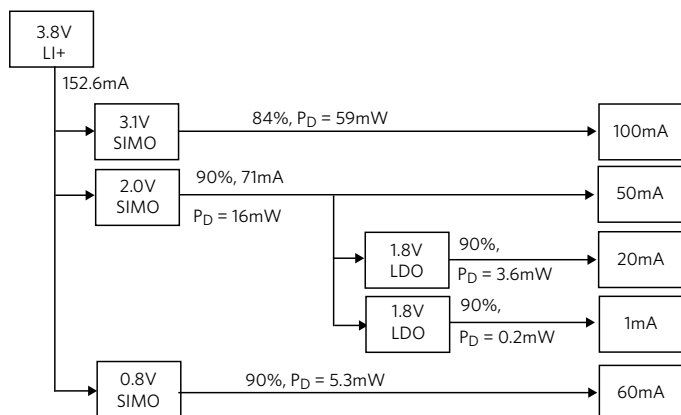

Figure 3. Power Tree of a High-Efficiency SIMO
Figure 3 is a system power tree, reporting each regulator's output voltage, load current, efficiency, and power dissipation (PD). Three out of five loads are supplied directly by the high-efficiency SIMO switching regulator. The LDOs for the fourth and fifth loads are also supplied by the SIMO, achieving 90% efficiency because of the low dropout (2V to 1.8V). The overall system efficiency is an outstanding 86.2%.